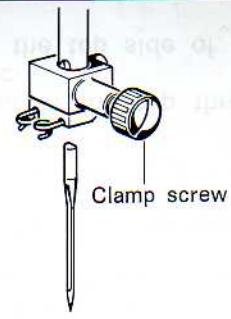

Fig. 1
. . . to most of your sewing. **To replace needle**, turn off machine. Check that needle is in highest position. Loosen Needle Clamp Screw (28) with screwdriver. Holding **flat** side away from you, insert needle as far as it will go (Fig. 1). Tighten clamp screw securely, using screwdriver.